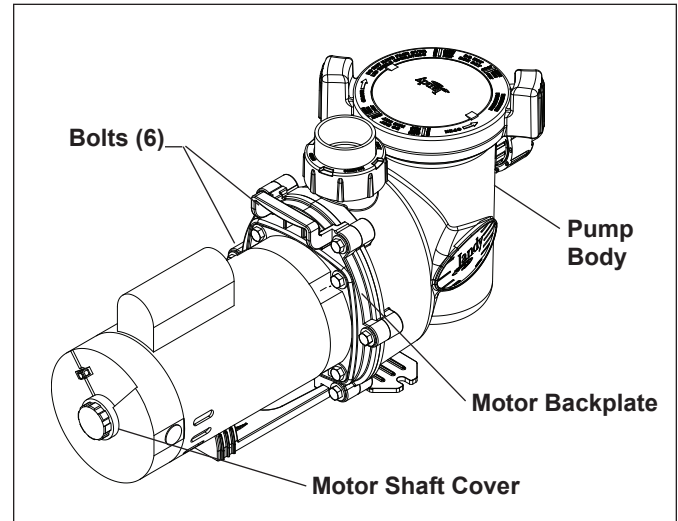

Figure 7. Remove the Pump Housing
3. Using a 9/16" wrench, loosen the bolts connecting the pump body to the motor backplate. See Figure 7.
7. Remove the motor shaft cover on the back of the motor by twisting the hex-head screw with a 90° crescent wrench. (See Figure 7.) The motor shaft will be exposed.